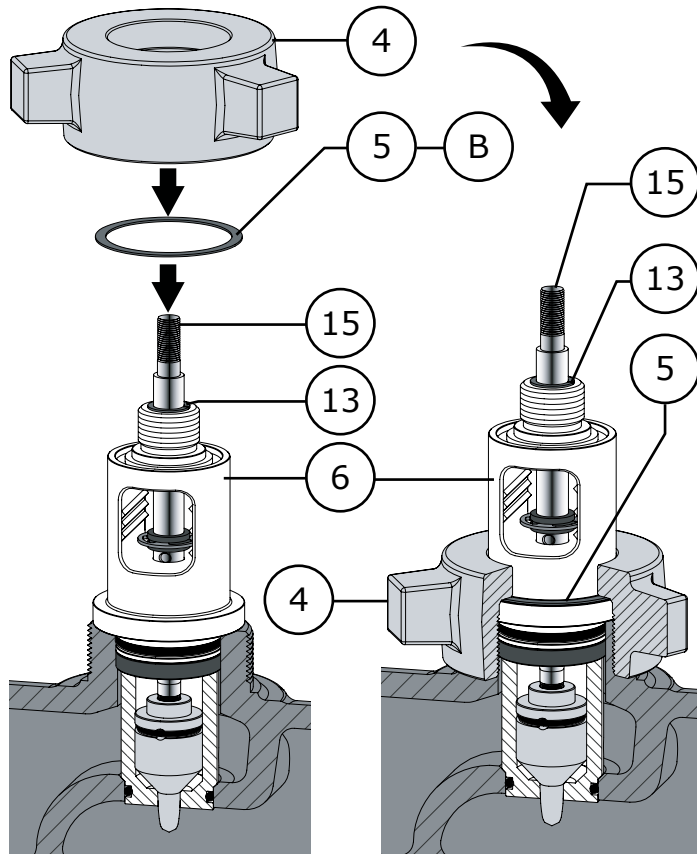

Figure 38 Bonnet Assembly Washer/Hammer Nut
- Apply Permatex® Nickel Anti-Seize (Key A) to both sides of the bonnet washer (Key 5) and slide it over the bonnet (Key 6) so that it sits as shown in Figure 38.
- Carefully slide the hammer nut (Key 4) over the valve bonnet (Key 6) so that it rests on top of the bonnet washer as shown in Figure 38.